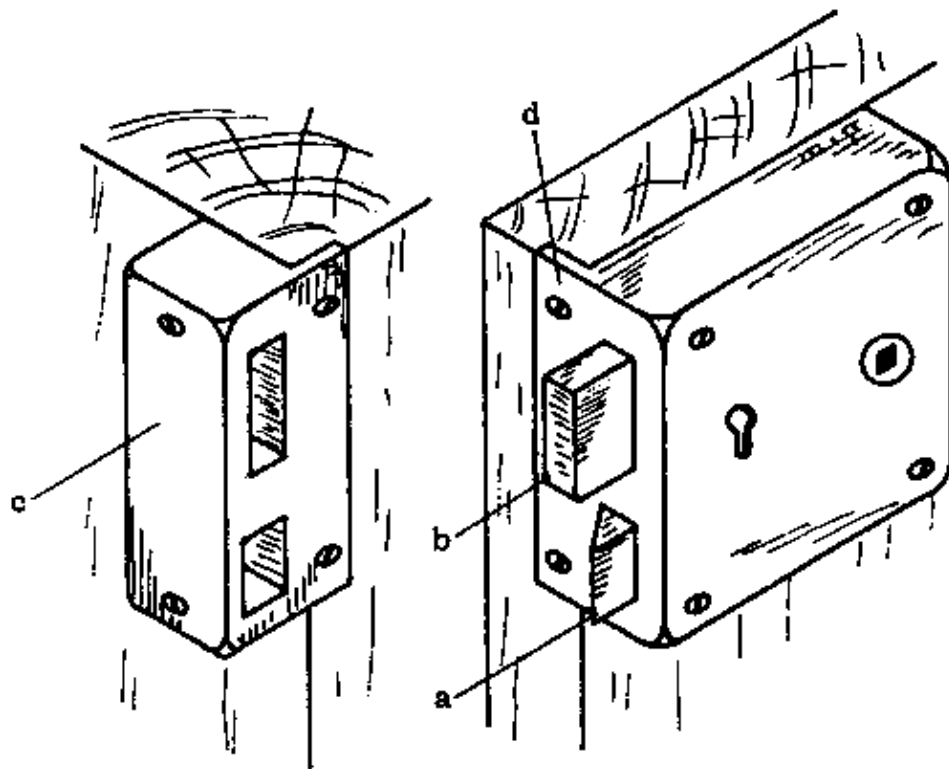

Fig. 1
– RIM LOCKS: Rim locks (Fig. 1) have a latch bolt (a) operated by a handle and a lock bolt (b) operated by a key from the outside or inside of the door. This kind of lock is attached with screws to the inside face of the door and the bolts shoot into a staple (c). There is a face plate (d) which is attached with screws to the door edge.